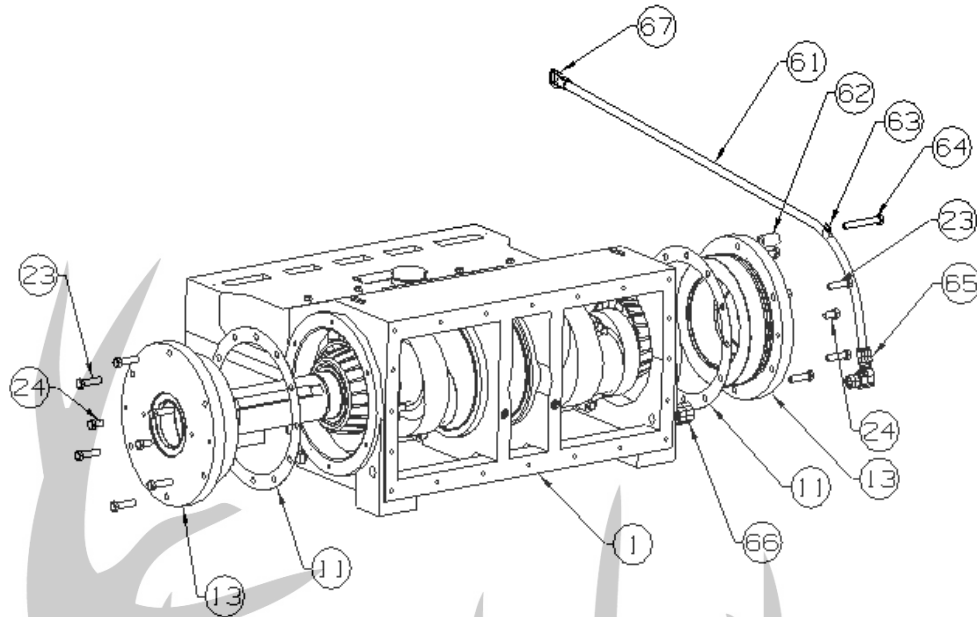

Figure 9: Q12 Bearing Housings
6. Push the connecting rods (3) and crosshead assemblies (4) as far forward into the power frame as possible to provide clearance for the crankshaft. Connecting rod bolts must be removed completely to provide additional clearance when removing the crankshaft.
7. Remove the left and right side bearing housings (13). See Figure 9. It may be necessary to tap on the housing with a rubber mallet to free it from the pump frame.